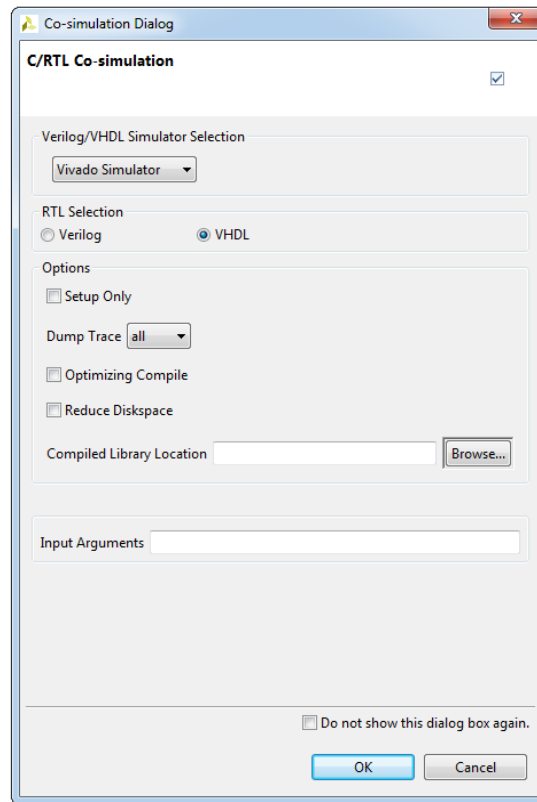

Figure 2.57: C/RTL Co-simulation dialog box with set parameters
- choose **all** in the **Dump Trace** drop down list, see Figure 2.57.